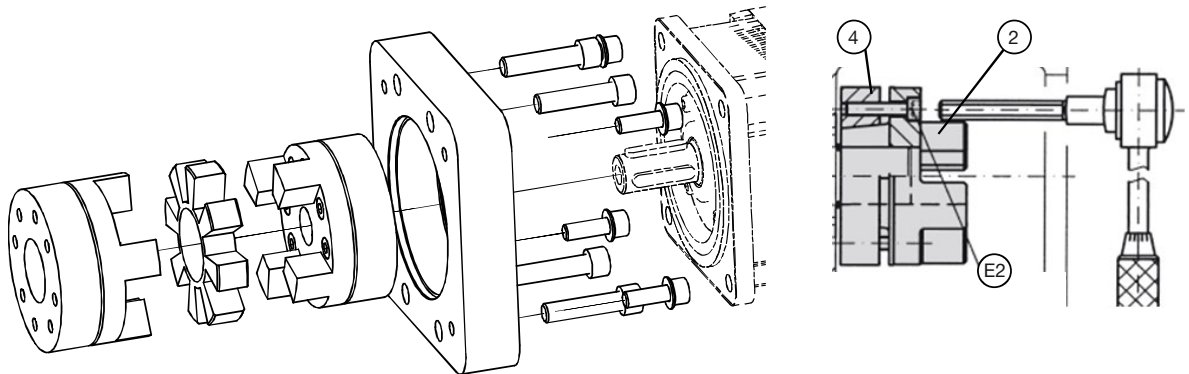
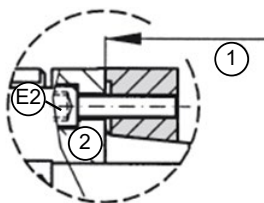
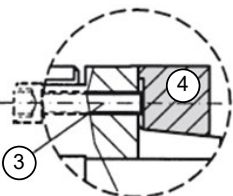

Figure 15: Motor /gear assembly ETH100 ... ETH125 inline
Figure 16: Coupling fixed stop ETH100 & 125
Figure 17: Clamp collar ETH100 & 125
- ◆ ETH100&125: Loosen all clamping screws (see Figure 16 & Figure 15 pos. E2) carefully (approx. 3 mm) and screw two of the screws into the open threaded holes. Now tighten screws evenly until the clamp collar (please refer to Figure 17 Pos. 4) is released from the coupling hub (please refer to Figure 16 Pos. 2) and can be freely moved.